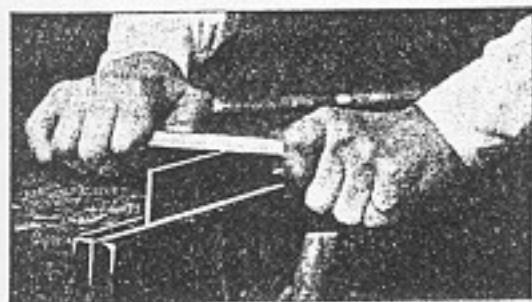

Fig. 22. Draw-filing hand scraper.
2. A flat mill file or a triangular file is held level across the edge of the scraper, one hand on each end of the file. The file is moved back and forth along the scraper until its edge is straight, flat, and square to the sides (Fig. 22). It should not be filed hollow in the center. This method of filing is called *draw-filing*. The scraper then is reversed in